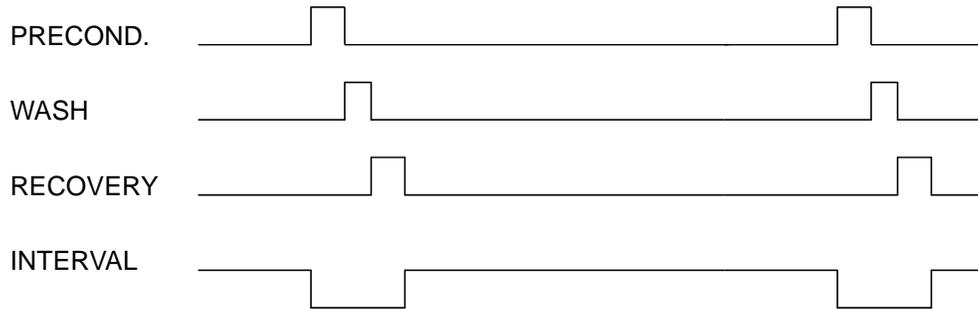
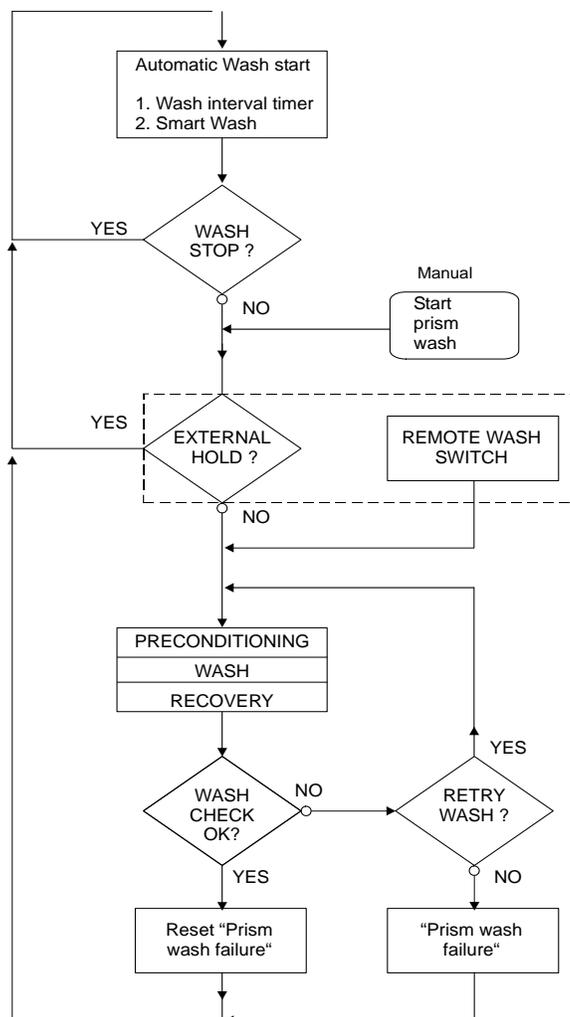

Figure 9.21 Prism wash sequence.
Figure 9.41 Wash decision logics.
- If the Relay unit is used as a wash timer, the time settings (Figure 9.21) are entered after the sequence Calibrate/Parameters/Prism wash:
1. Preconditioning time, s (10)
2. Wash time, s (3)
3. Recovery time, s (30)
4. Wash interval, min (20)
Figure 9.21 describes the standard prism wash sequence Preconditioning/Wash/Recovery/Interval. In some cases the wash routine should be modified to better fit the application. The Wash decision logics (Figure 9.41) of K-Patents refractometer covers a wide range of options.